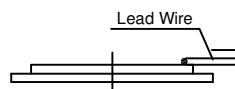

Fig.3.2 Direction of Lead Wire
a) Wire to be soldered on ceramic at the edge. It should withstand minimum 20N force applied in  $180^{\circ}$  .The wire should not come out before this .The ceramic can be either glued on a surface of can be held in hand.(Fig.3.2)